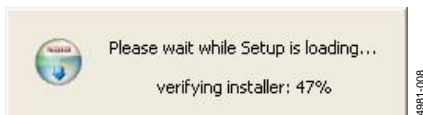

Figure 10. Beginning of **SDP-H1** Driver Installation
6. Click **Next** to complete the installation and to launch the **SDP-H1** driver installation as shown in Figure 10.